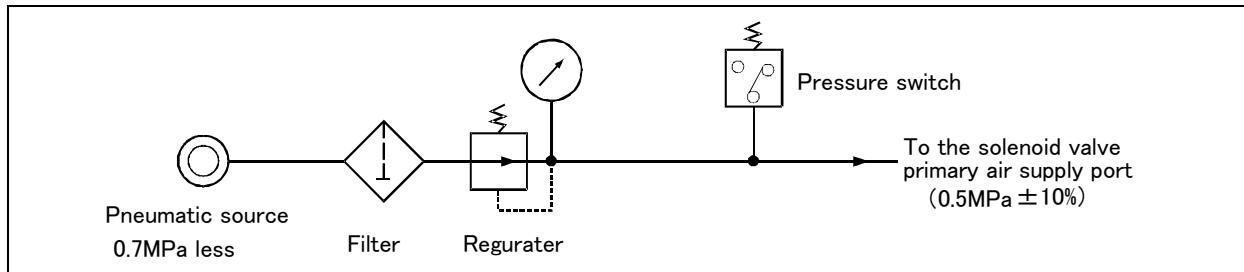

Fig.2-10 : Air supply circuit example for the hand
Fig. 2-10 shows an example of pneumatic supply circuitry for the hand.
(1) Place diodes parallel to the solenoid coil.
(2) When the factory pneumatic pressure drops, as a result of the hand clamp strength weakening, there can be damage to the work. To prevent it, install a pressure switch to the source of the air as shown in Fig. 2-10 and use the circuit described so that the robot stops when pressure drops. Use a hand with a spring-pressure clamp, or a mechanical lock-type hand, that can be used in cases where the pressure switch becomes damaged.
(3) The optional hand and solenoid valve are of an oilless type. If they are used, don't use any lubricator.